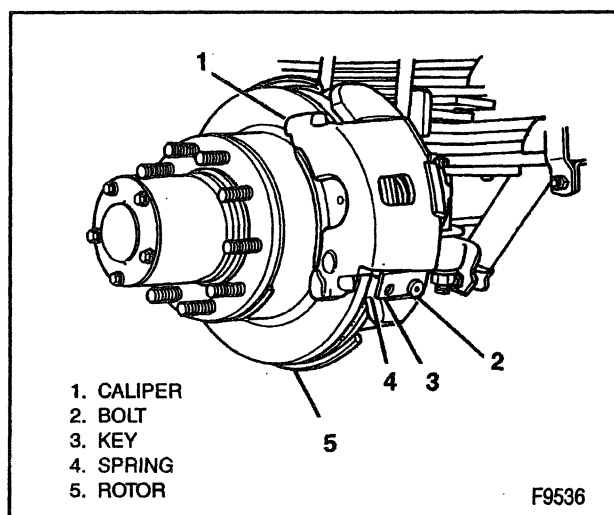
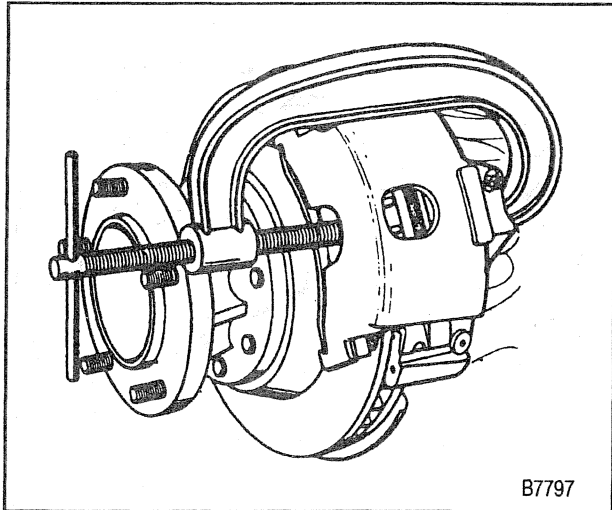

Figure 3—Disc Brake Assembly
Figure 5—Compressing the Caliper Piston
Remove or Disconnect (Figures 3 and 4)
5. Position a C-clamp and tighten until piston bottoms in bore (figure 5).
8. Bolt (2).
9. Support key (3) and spring (4) (figures 3 and 4).
Install or Connect (Figures 3 and 4)